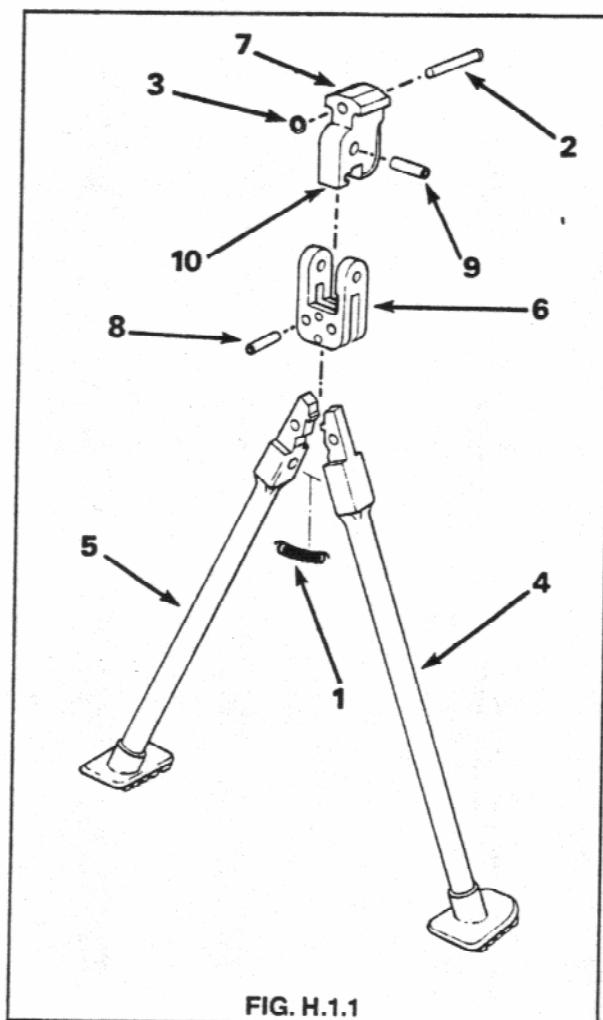

FIG. H.1.1
2. The bipod assembly consists of the following components, as illustrated in Fig.H.1.1.